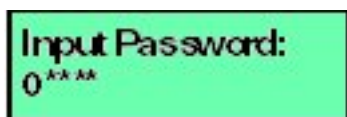

Figure 3.9. LCD Panel (Password Entry)
- At the LCD panel, press **ENTER**. The Welcome!! or operational information message changes to the following (Figure 3-9):